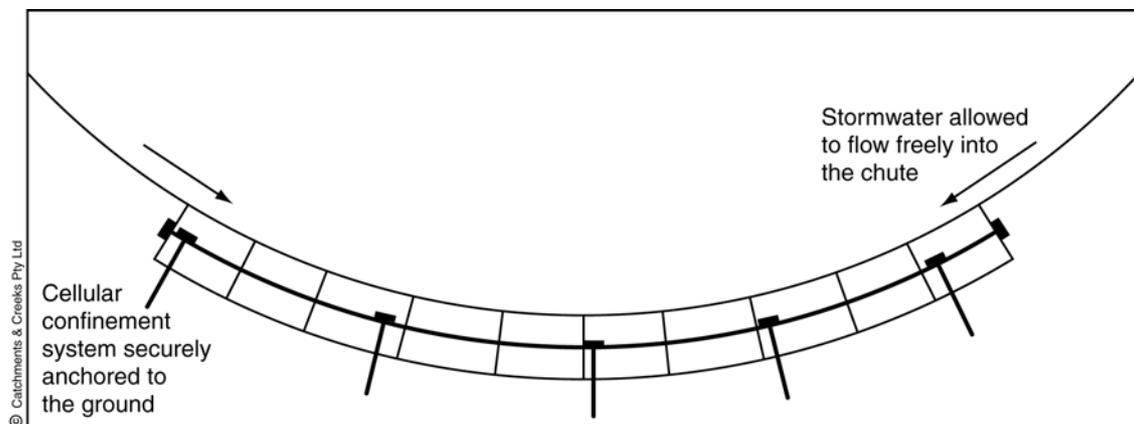

Figure 1 – Placement of cellular confinement system within a chute with concave profile
Step 4 If the CCS-lining in the chute follows a curved (concave) profile as shown in Figure 1, then design a suitable anchorage system as to prevent the honeycomb matrix lifting from the ground.